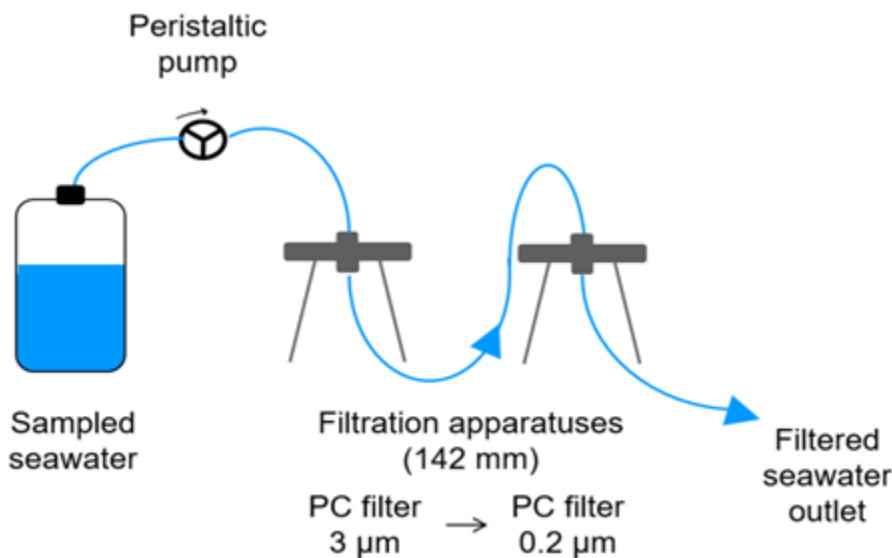

Figure 1: Simplification of filtering setup.
- Find three new, wider, tubes in a bag labeled GO-sampling and attach them to the cassette and the peristaltic pump like **figure 1** below (do not add PC filters yet):
- Apply filters using the clean forceps in the order shown in **figure 1**.